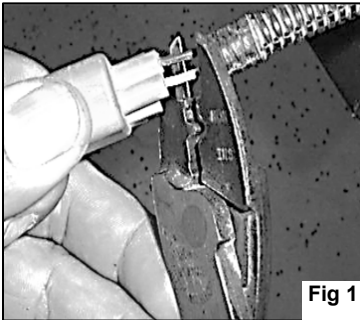

Fig 1
1. Cut the two wires at the base of the factory turn signal light housing. Fig 1 Discard factory turn signal light.
1. Locate the supplied “U” shaped rubber trim (I). Peel back 1 “of the red lining. Starting at one end of the flare, push the trim onto the edge of flare. NOTE: Make sure the red lining is on the inside of the flare. FIG 1 and 2